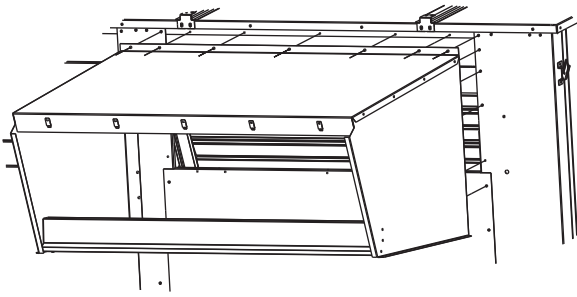

Fig. 26 — Removing Screws from the Outdoor Air Opening of Unit
9. Remove the screws on each end and along top of the outdoor air opening of unit. Set hood assembly in place and attach to unit using gasketed screws. See Fig. 26 for removing the screws from the unit.